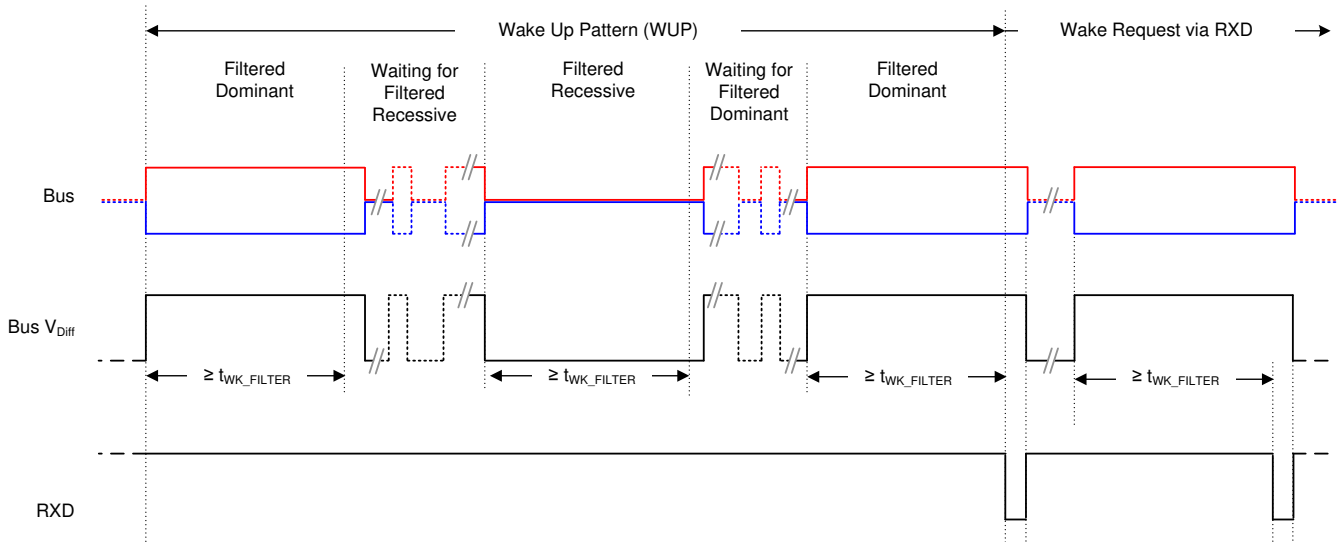

Figure 6-5. Wake Up Pattern (WUP) and Bus Wake via RXD Request (BWRR)
(1) Standby Mode RXD behavior: See 図 6-5.
This is the low power mode of the device. The CAN driver and main receiver are turned off and bi-directional CAN communication is not possible. The low power receiver and bus monitor are enabled to allow for RXD Wake Requests via the CAN bus. A wake up request will be output to RXD (driven low) as shown in 図 6-5. The local CAN protocol microprocessor should monitor RXD for transitions (high to low) and reactivate the device to normal mode based on the RXD Wake Request. The CAN bus pins are weakly pulled to GND during this mode, see 図 6-4.
See Figure 6-5 for the timing diagram of the WUP. The pattern, t_{WK_FILTER} time used for the WUP and BWRR prevent noise and bus stuck dominant faults from causing false wake requests. If the device is switched to normal mode, or an under voltage event occurs on V_{CC} the BWRR will be lost.